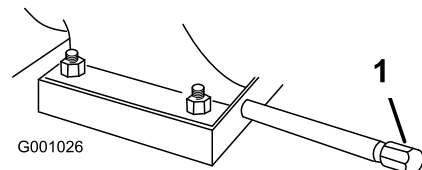

Figure 38
- Clean the area around the oil-drain cap (Figure 38).